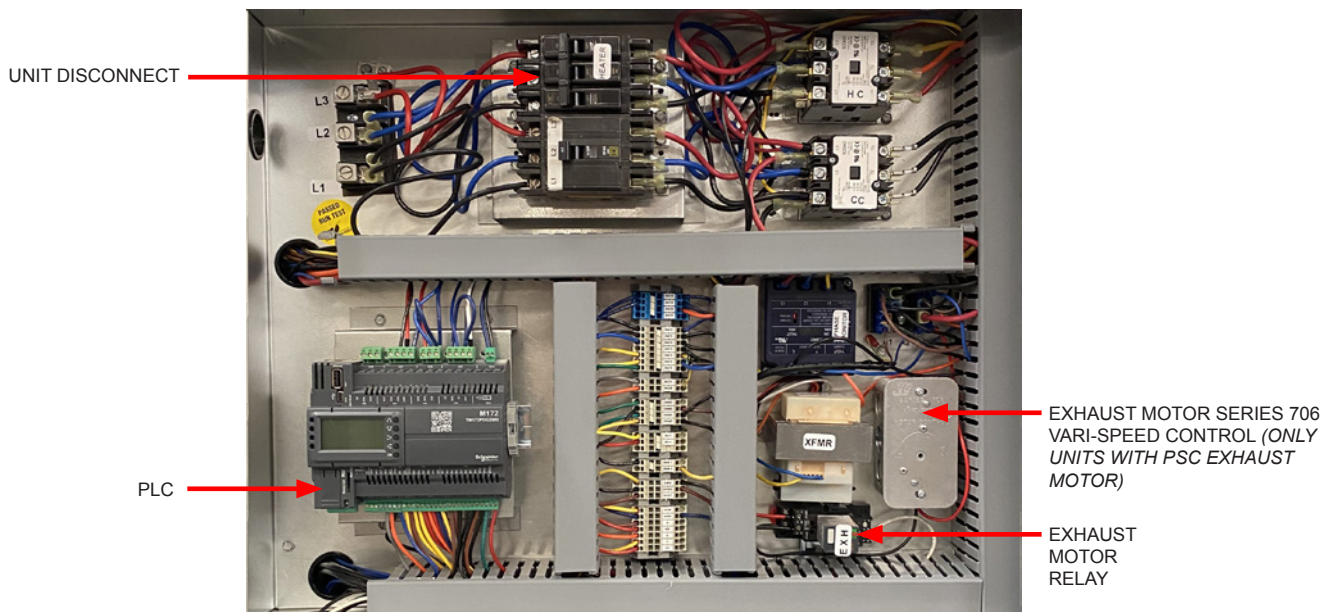

Figure 10. Electrical Control Box
- D. The unit comes standard with manual ventilation mode which is set at 10%, end user can change this setting on the “Econ/ Vent Option Screen”. If additional control of the ventilation package is desired or for Emergency ventilation, it may be accomplished by the following: The Controls Contractor must remove the factory installed jumper between terminals Vent and 24V R then provide a set of contacts (24 VAC pilot duty) between terminals Vent and 24V R. When the field supplied contacts between Vent and 24 V R are closed the ventilation package will operate and energize the blower. See Figure 10. Alternatively, you may disconnect the GWR jumper and provide 24V to the Vent input.
The fresh air door should be set in accordance with the amount of fresh air flow required, up to a maximum of 450 CFM. Figure 10 illustrates the fresh air door settings and air flow rates.
Follow the directions in Figure 10 to ensure proper air flow rate settings. After calibrating the ventilation system, replace the lower front cabinet panel.
The fresh air door is opened and closed by the motorized drive. Calibration, as shown in Figure 10, will ensure the required amount of air, up to a maximum of 450 CFM, is delivered to the classroom.